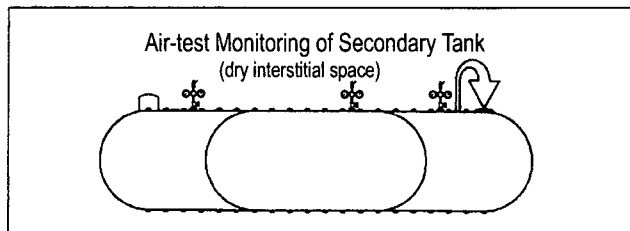

FIGURE 4-4
4.5.6. Use the quick-disconnect assembly to pressurize the interstitial space. See SECTION 3.6. and FIGURE 4-4.